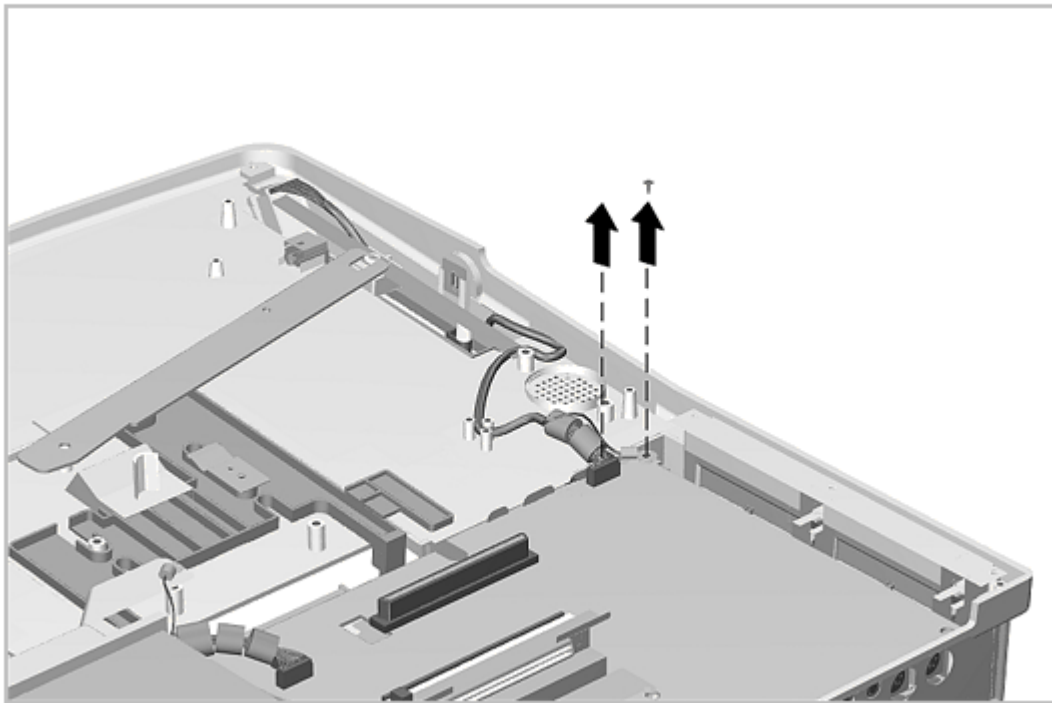

Figure 7-27. Disconnecting the Power Switch Board
3. Disconnect the power switch board cable and ground wire from the main board (Figure 7-27).